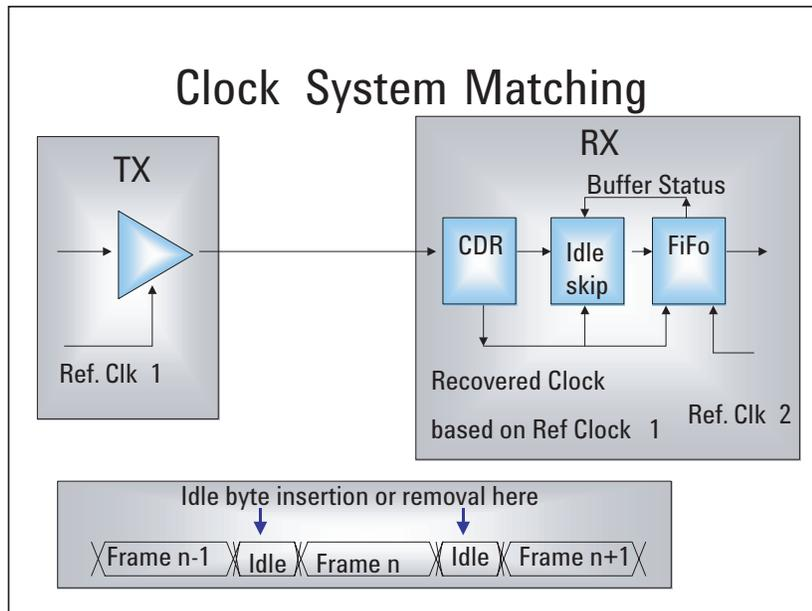

Figure 8
Figure 8 shows transmitter (TX) and receiver (RX), both with their own individual reference clock inside. The transmission of data is built in such a way that user data is packaged into frames. In between frames there is a minimal time where idles are transmitted.